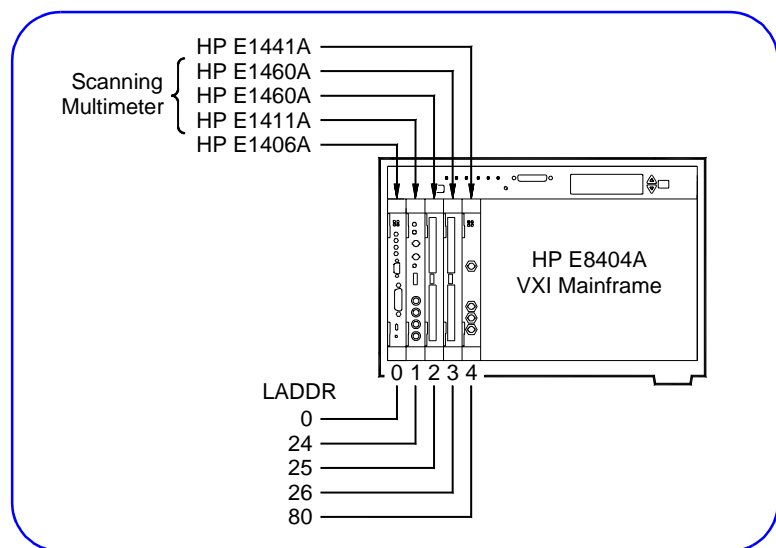

Figure 17. Example: Scanning Multimeter Logical Addresses
- A multimeter and one or more multiplexers can be used to form a **scanning multimeter**. In this case, the instruments must be in adjacent mainframe slots and must have sequential logical addresses (see Figure 17). In addition, for HP E1406A systems the multimeter must have a logical address that is a multiple of 8.
Figure 17 shows an HP E1406A installed in Slot 0 and VXI instruments installed in slots 1 through 4 of an HP E8404A VXI mainframe. The HP E1411B multimeter and the two HP E1460A multiplexers form a scanning multimeter since they are in adjacent mainframe slots, and they have sequential (24, 25, 26) logical addresses.